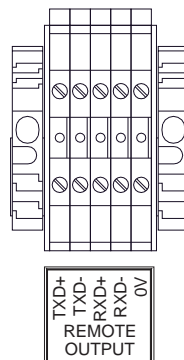

Figure 18 Main 880 terminal blocks and connections
3. Connect the RS-422 Serial communications cable to the terminal blocks labeled “REMOTE OUTPUT” in the Main 880 enclosure (Figure 18).